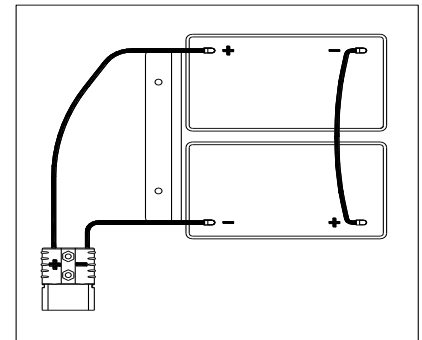

Figure 3
The machine requires two 12V batteries, connecting according to Figure 3.
- Open the recovery tank cover (4) and check the recovery tank (3) is empty, otherwise, empty it with the drain hose (15).
- Close the recovery tank cover (4).
- Overturn the recovery tank (3) carefully.
- Route and install the battery cable as shown in (Figure 3), then carefully tighten the nut on each battery terminal.
- Carefully lower the recovery tank (3).